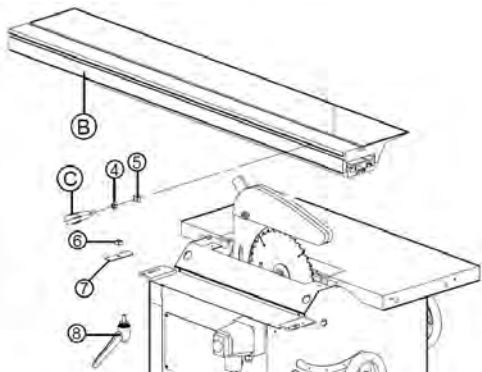

Fig. 13: Mount the sliding carrier
Step 1: Mount the sliding carrier with the drawing in Figure 13.